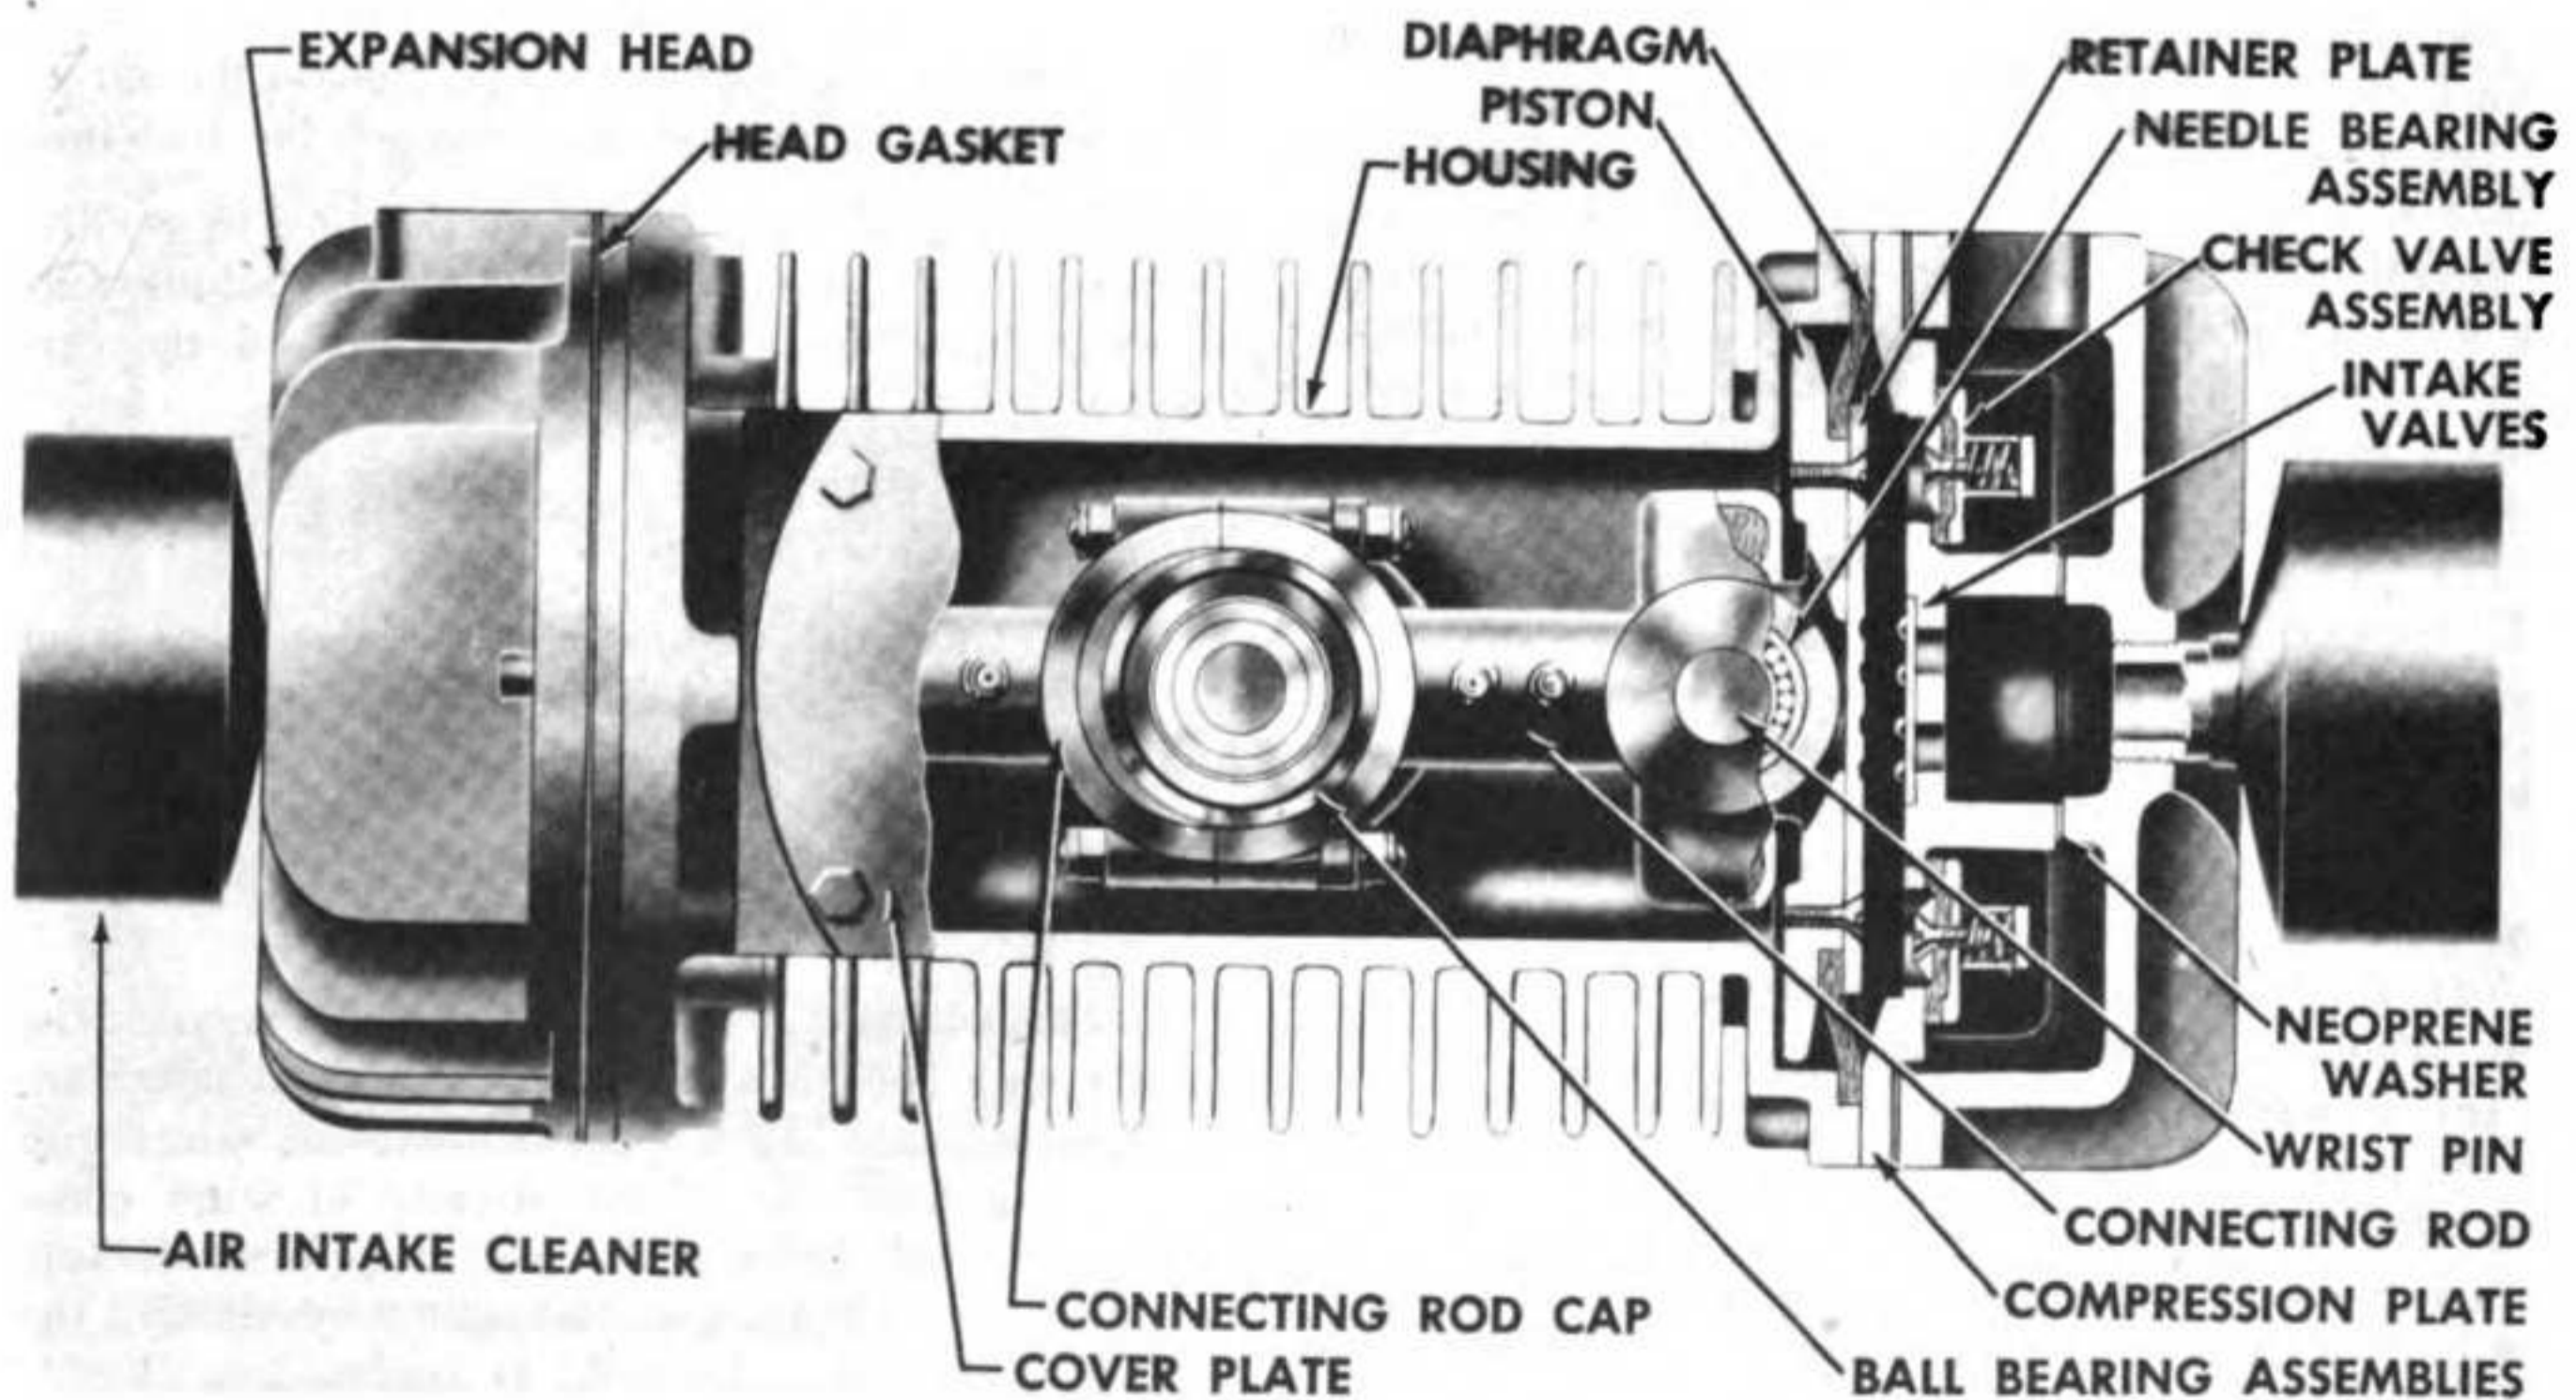

Figure 24—Cross Section of Compressor—Front View
(2) The two pistons of the compressor are opposed, pulling inward together for the intake stroke, and pushing outward for the discharge stroke. (See figures 24 and 25.)